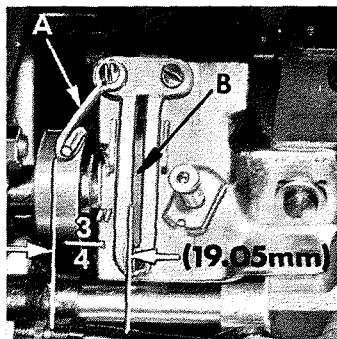

Fig. 15
Set looper thread guide eyelet (A, Fig. 15) so its left outer surface is $\frac{3}{4}$ inch (19.05mm) from the left side of looper thread take-up (B), (See Fig. 15).